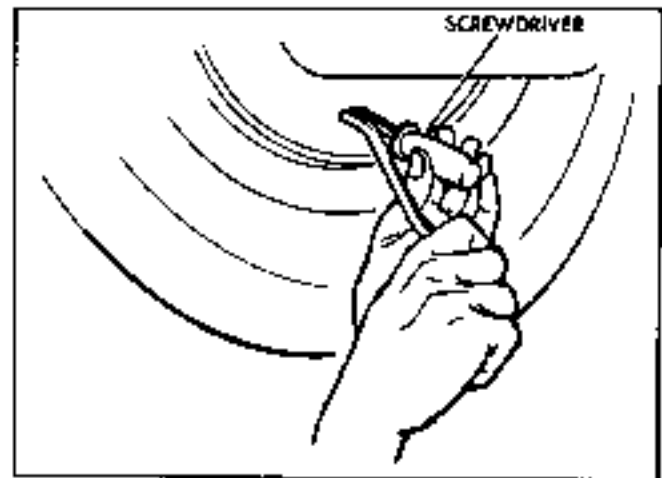

Fig. 5-5 Preparing to Back Off Adjusting Screw
1. Remove wheels and brake drums. It may be necessary to back off the brake shoe adjustment before the brake drums can be removed. If this is the case, insert a small rod or screwdriver through the adjusting screw slot in the backing plate and hold automatic adjuster lever away from adjusting screw star wheel and rotate adjusting screw downward (Fig. 5-5 and 5-6).
NOTE: It may be necessary to back off the brake shoe adjustment before the brake drums can be removed. To back off shoe adjustment insert a small rod or screwdriver through the adjusting screw slot in the backing plate and hold automatic adjuster lever away from adjusting screw star wheel and rotate adjusting screw downward (Figs. 5-5 and 5-6).